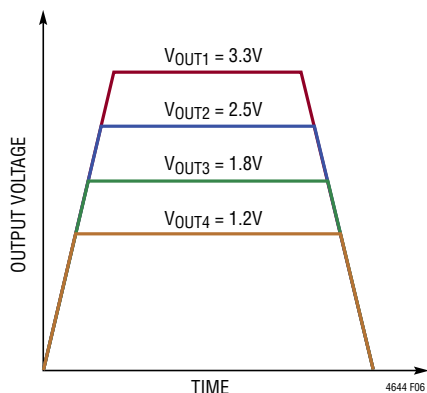

Figure 6. Output Coincident Tracking Waveform
The coincident output tracking can be recognized as a special ratiometric output tracking which the master's output slew rate (MR) is the same as the slave's output slew rate (SR), as waveform shown in Figure 6.
The expression shows that the diode voltage decreases (linearly if I_0 were constant) with increasing temperature and constant diode current. Figure 6 shows a plot of V_D vs Temperature over the operating temperature range of the LTM4644.